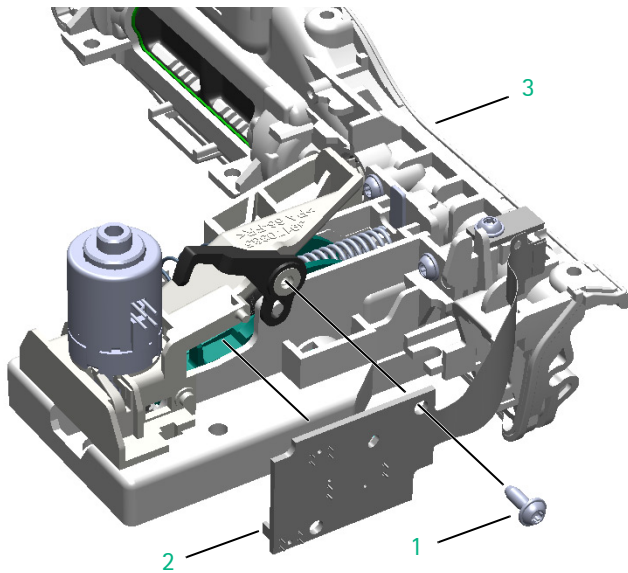

Fig. 3 - 36
- 17. Remove the pressure sensor, downstream (Fig. 3 - 35 / Item 3).